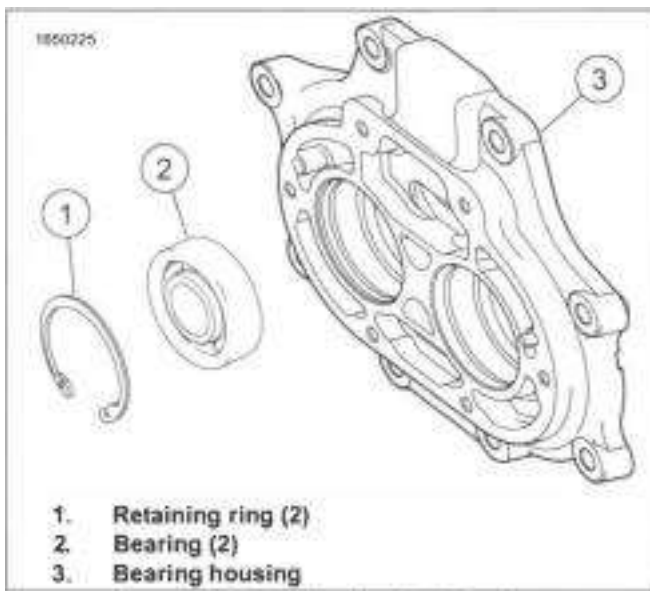

Figure 5-55. Bearing Housing Bearings
1. See Figure 5-55. Remove the retaining rings (2). Discard retaining rings.
2. See Figure 5-55 . Install new beveled retaining ring (1) with the flat side against the bearing.